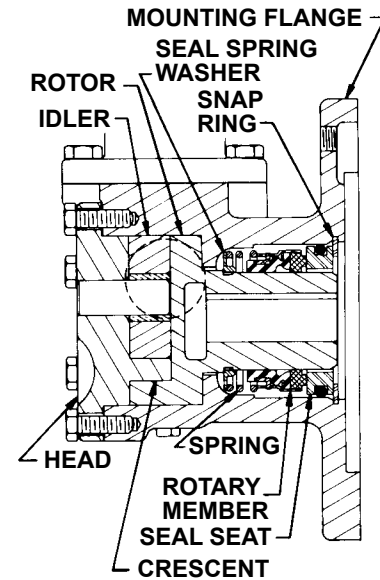

FIGURE 9
To Reassemble Model G475 or GG475 Mechanical Seal Pumps: see Figure 9)
Note the correct position of the idler and crescent (**See Figure 9** and **Disassembly Step 2**). Tighten the head capscrews and then check the end clearance.
- INSTALL THE MECHANICAL SEAL.** Slide the seal spring washer over the rotor hub as far as it will go. Flush the rotor hub and seal housing bore with light oil (not grease) and assemble the spring, rotary member and seat of the mechanical seal in position, **refer to Figure 9**.